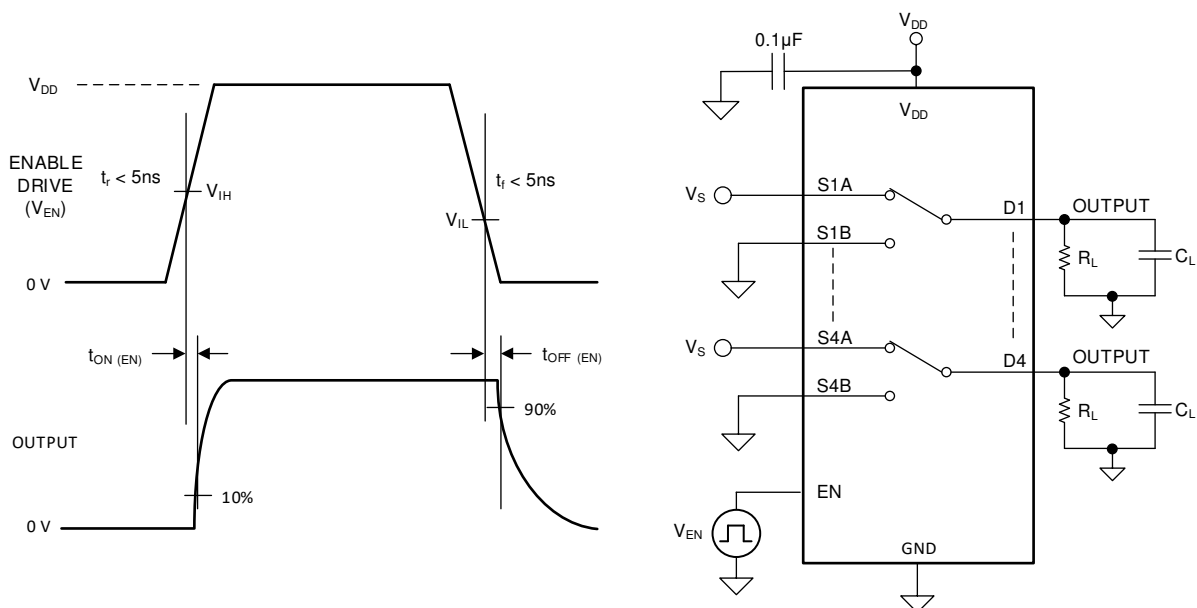

Figure 7-6. $t_{\text{ON (EN)}}$ and $t_{\text{OFF (EN)}}$ Time Measurement Setup
7.6 $t_{\text{ON (EN)}}$ and $t_{\text{OFF (EN)}}$ Time
The $t_{\text{ON (EN)}}$ time is defined as the time taken by the output of the device to rise to 90% after the enable has fallen past the logic threshold. The 90% measurement is used to provide the timing of the device being enabled in the system. Figure 7-6 shows the setup used to measure the enable time, denoted by the symbol $t_{\text{ON (EN)}}$.